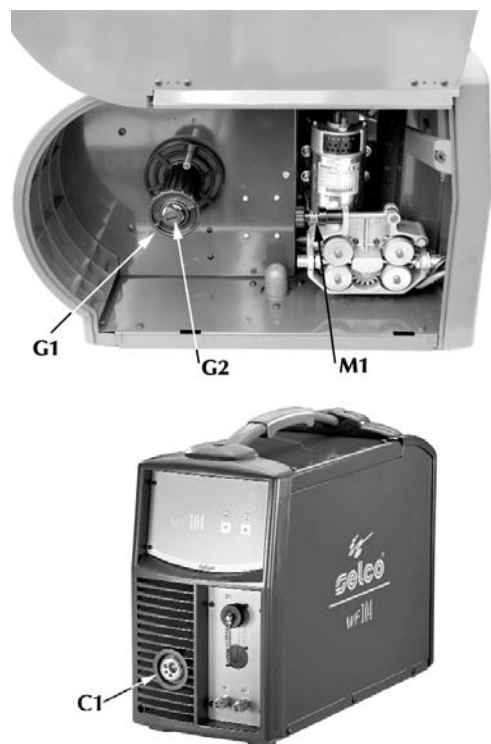

Fig. 10 Details of the mobile trolley
- Unscrew the ring nut (G1 fig. 10) from the coil reel and insert the coil.
Fit the reel metal pin into its housing, replace the ring nut (G1) and adjust the friction screw (G2 fig. 10).
- Release the feed support of the gearmotor (M1 fig. 10), sliding the end of the wire into the wire guide bush and, passing it over the roller, into the torch fitting.
- Insert the torch, complete with sheath, into the central fitting (C1 fig. 10), fully tightening the ring nut. If the torch is water-cooled, connect the delivery and return pipes to the couplings (A5-A6 fig. 10).